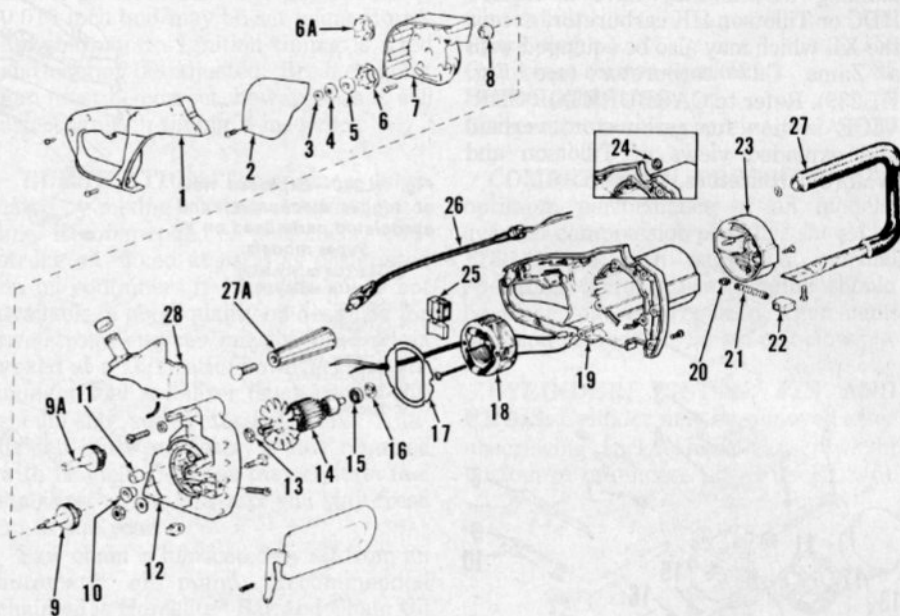

Fig. HL230—Exploded view of XEL electric chain saw. Components 6A, 9A and 27A are used on XEL 8 and XEL 10 saws.
LUBRICATION. Oilite bushings (8, 10 and 11—Fig. HL230) and rear bearing (15) do not require lubrication. Drive gear (9 or 9A) should have 2½ to 3 ounces of Homelite grease, part number 17237, around gear teeth.
BRUSHES. Brushes may be renewed without major disassembly of unit. Position saw so housing cover (23—Fig. HL230) is up, then remove cover. Insert the tip of a narrow screwdriver under brushholder (22) between the commutator and housing and pry up to unsnap holder. Disconnect brush lead, then carefully withdraw brush assembly.
DRIVE SPROCKET. The XEL 12 and XEL 14 models are equipped with a slipper drive sprocket (3 through 6—Fig. HL230) designed to absorb shock loads transmitted through the chain to the motor. Adjustment is required when sprocket slips under light loads.
Major component disassembly and reassembly procedures are evident after inspection of unit and referral to exploded view in Fig. HL230.